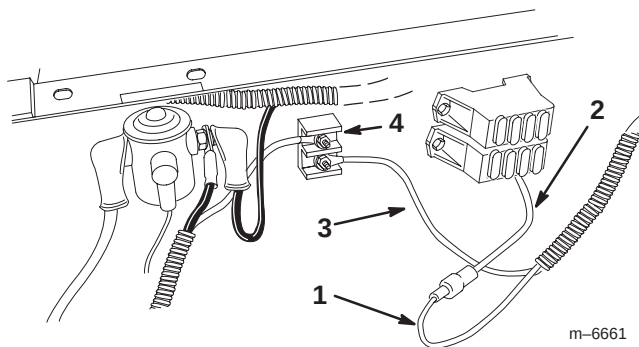

Figure 24
12. Connect the middle lead with the eye ring connector to a ground stud on the ground terminal block (Fig. 24).